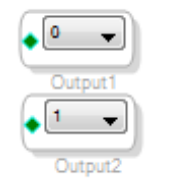

Figure 24. Output Blocks
- ii. Repeat the previous step to add another output (see Figure 24).